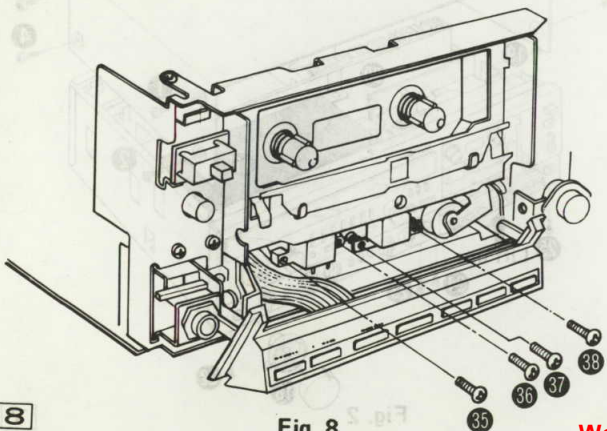

Fig. 8
3. To remove the erase head, remove the setscrews 35 and 36 of Fig. 8.
4. To remove the record/playback head, remove the setscrews 37 and 38 of Fig. 8. (Setscrew 37 is an azimuth screw.)